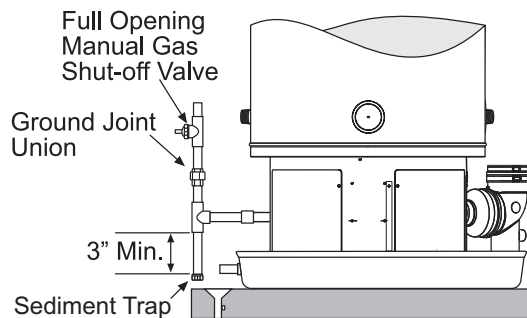

Figure 37
Follow the instructions below and reference Figure 37 for gas piping installation.
4. Install a ground union between the water heater and the manual shut-off valve. This is to allow easy servicing. See Figure 37 below.
1. For test pressures exceeding 1/2 psi (3.45 kPa) disconnect the water heater and its Main Gas Shutoff Valve from the gas supply piping system during testing, see Figure 37 on page 31. The gas supply line must be capped when disconnected from the water heater.